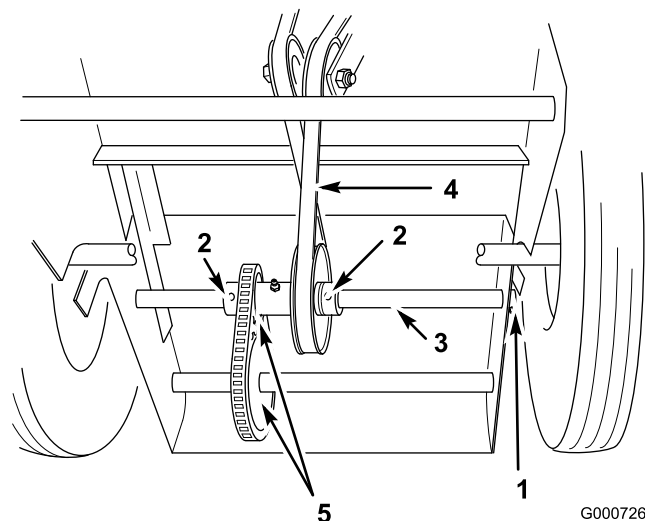

Figure 37
14. Remove the cotter pin from the end of the traction drive shaft, loosen the set screw in each of the collars, and tap the shaft to the left far enough so the new belt can be installed (Figure 37).
15. Install the belt around the drive shaft pulley (Figure 37).
Important: The belt must be installed as shown in Figure 37 or the traction drive will run backward.
16. Return the shaft to its original position, secure the collars with the set screws, and the shaft with the cotter pin (Figure 37).
17. Ensure that the sprockets are aligned properly (Figure 37).